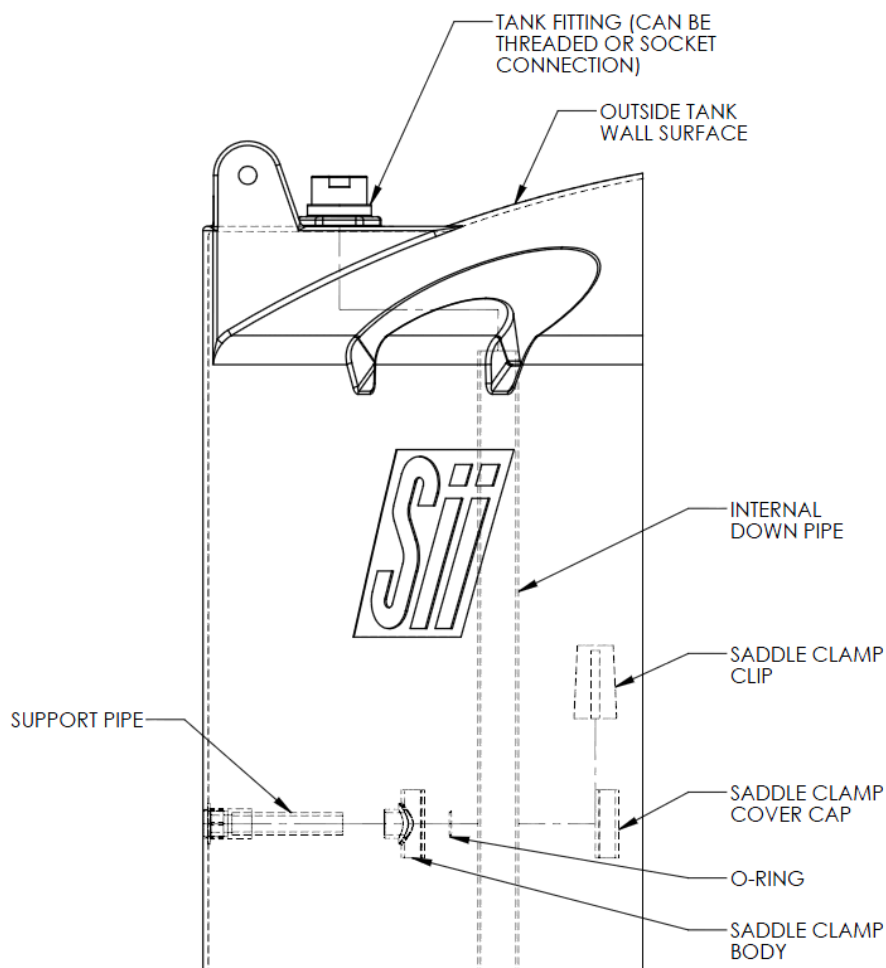

Figure 7.4
7.4.2 Assemble the piping loosely using Figure 7.4, the guidelines detailed below, and the customer approved tank drawing to ensure all parts are present and cut to meet the customer's requirements. As soon as all parts have been checked, assemble the parts with solvent weld cement and/or threaded connections as shown in Figure 7.4.
7.4.3 Assemble and install support structures as shown in Figure 7.4 (without the saddle clamp cover caps and clips). Since the support fitting does not penetrate the tank wall, the threaded connection to the support fitting does not need pipe sealant. Make sure the support clamp orientation is correct (with the small width of the wedge toward the top of the tank). Assemble and install piping as per the customer approved drawing. As piping is being installed on the tank, lock it in